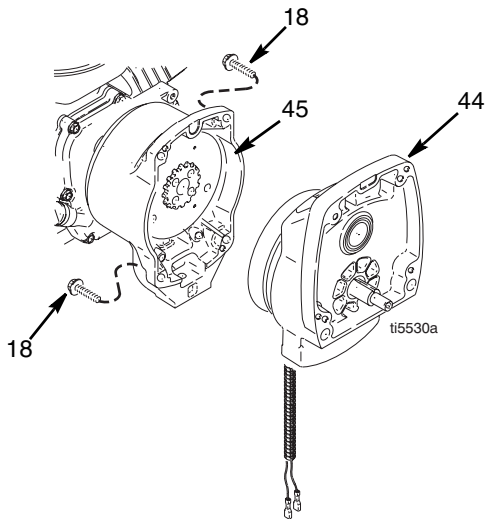
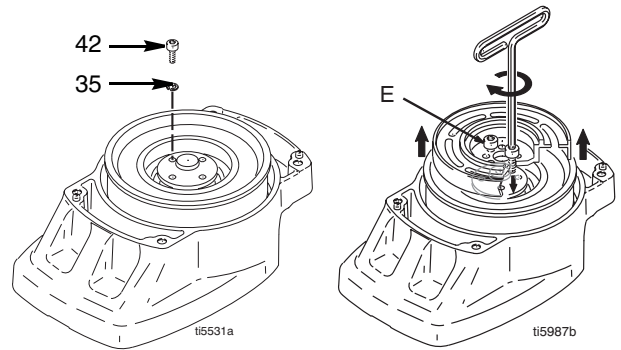

FIG. 4
FIG. 5
4. FIG. 4. Remove four screws (18) and pinion assembly (44).
5. FIG. 5. Place pinion assembly (44) on bench with rotor side up.
6. Remove four screws (42) and lock washers (35). Install two screws in threaded holes (E) in rotor. Alternately tighten screws until rotor comes off.
- FIG. 5. Place pinion assembly on bench with rotor side up.
- Apply locktite to screws. Install four screws (42) and lock washers (35). Alternately torque screws to 125 in-lb until rotor is secure. Use threaded holes to hold rotor.
- FIG. 4. Install pinion assembly (44) with four screws (18).
① Face of clutch housing
② 1.550 ± 0.010 in. (39.37 ± 0.25 mm)
③ Torque to 125 ± 10 in-lb (14 ± 1.1 N-m)
④ Chamfer this side